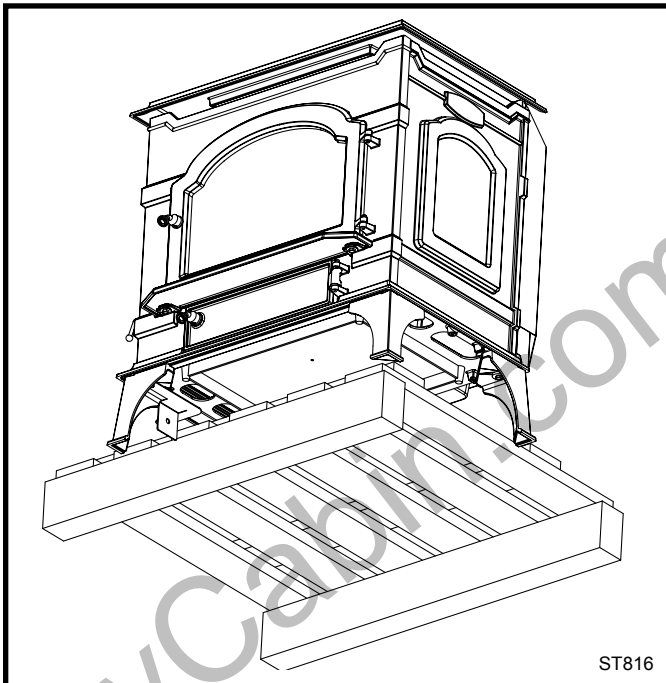

Fig. 21 Reposition stove so one rear leg can be attached.
7. Reposition the stove so the first rear leg can be attached. Attach the leg using the procedure described in Step 6. (Fig. 21)
9. Remove the (4) ¼-20 x ¾" hex head bolts from the mounting bosses and attach the bottom heat shield using the same bolts.